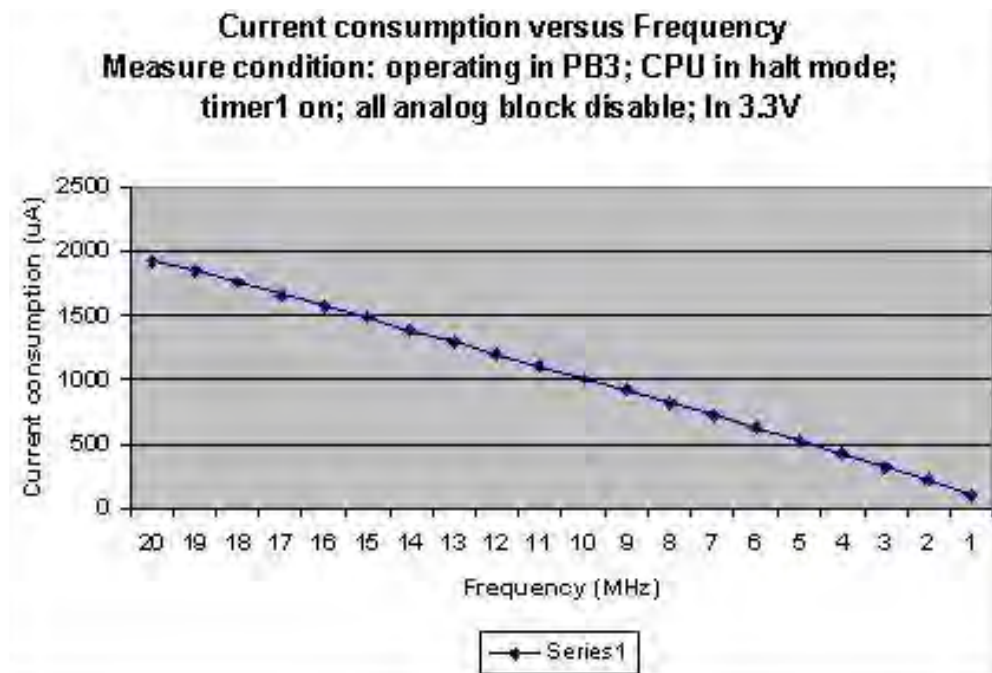

Figure 31.  $I_{CC}$  Versus System Clock Frequency (HALT Mode)
3. See Figure 31 for HALT Mode current.
Figure 31 displays the typical current consumption while operating at 25 °C, 3.3V, versus the system clock frequency in HALT Mode.